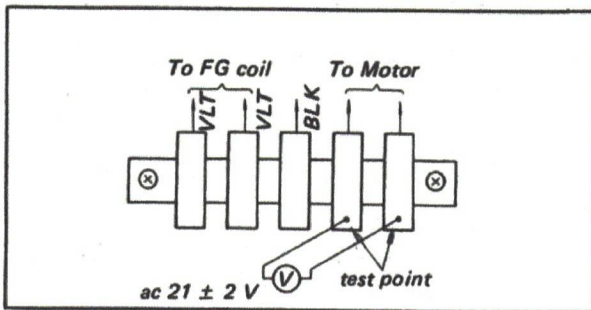

Fig. 2-8. Test point for electromagnetic brake adjustment
2. Set the turntable for $33\frac{1}{3}$ rpm operation, and then measure the voltage applied to the motor at the 5-P terminal strip as shown in Fig. 2-8. It should be within the limits of 21 ± 2 volts ac. If not, readjust the clearance between the turntable and the magnet by replacing the spacer as previously described.